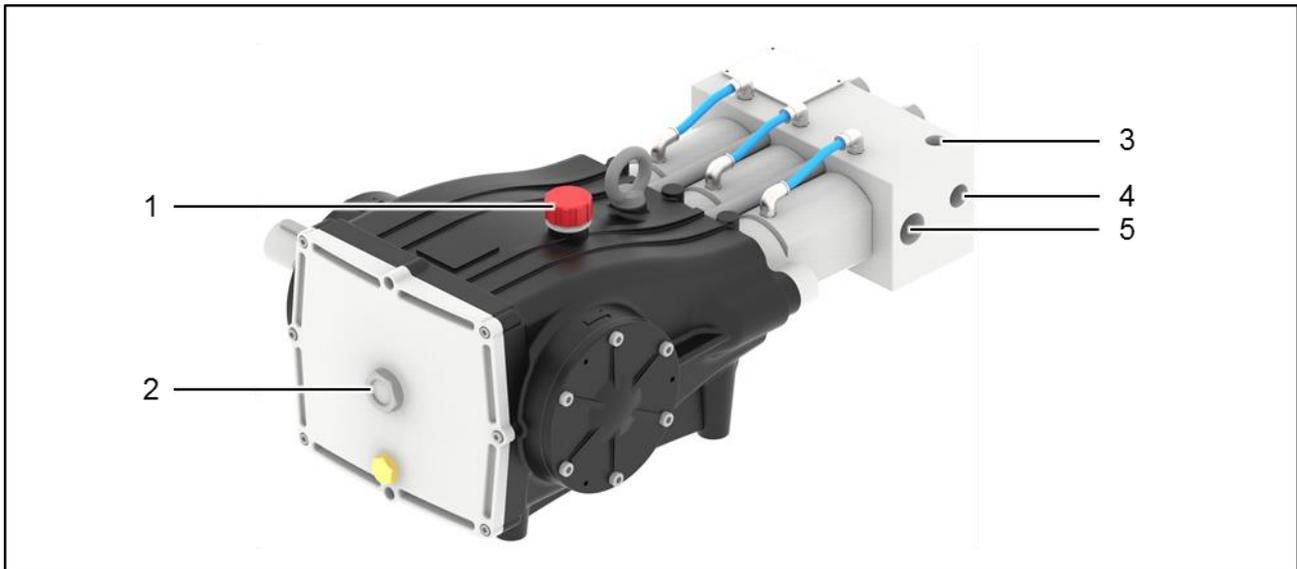

Figure 14: Putting into operation for the first time (for illustration purposes only)
- The oil level must be checked before starting the pump for the first time. The oil level should be in the middle of the oil sight glass (Figure 14: 2).
1. Check the oil level at the oil sight glass (Figure 14: 2). The correct fill level is reached when the oil level is in the middle of the oil sight glass.
2. If insufficient oil is present, unscrew the oil filling plug (Figure 14: 1).
9. Connect the water tool or other consumer to the high-pressure connection (Figure 14: 4) of the pump with a high-pressure hose.
Before starting the pump, the oil level must be visible at the centre of the oil sight glass (Figure 14: 2).
The operating pressure is measured at the pump head (Figure 14: 3) with a high-pressure gauge (Figure 9). For the permissible operating pressure, see Tabelle 6: Operating pressure.